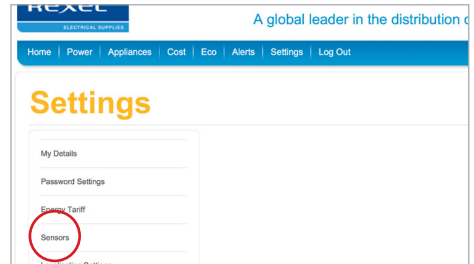

fig.23
3. From the menu on the left, choose 'Sensors'. This will display a list of detected Sensors (fig.23).